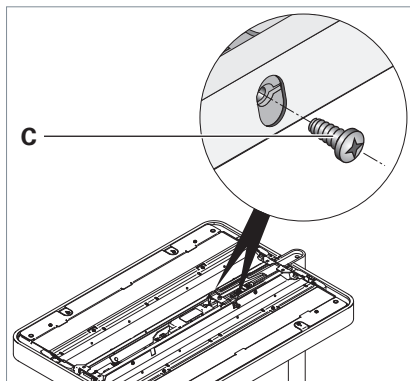

Fig. 21: Removing the fastening elements.
- Unscrew both fastening screws **C**, see Fig. 21.